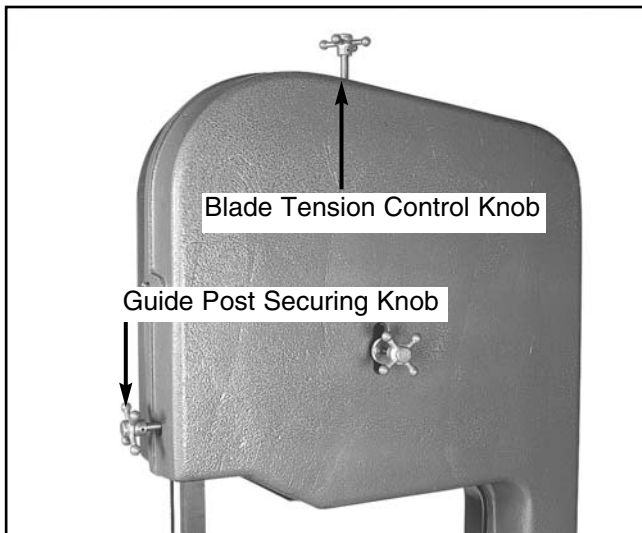

Figure 24A. Tension and guide post controls.
2. Loosen the guide post securing knob and slide the guide post all the way up. Lock it in position by tightening the securing knob shown in **Figure 24A**.